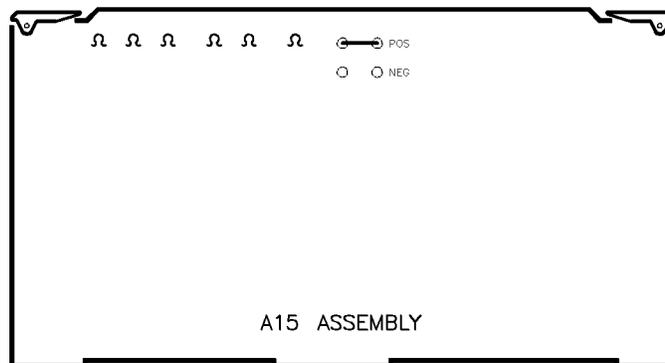

Figure 3-40. External Trigger Edge Selection Location
This procedure sets the external trigger to trigger on either the leading or the trailing edge of a TTL signal. When the jumper (shown in Figure 3-40) is in the POS position a sweep is triggered on the leading edge of the pulse (when the signal changes from 0 to 5 volts). When the jumper is in the NEG position a sweep is triggered on the trailing edge of the pulse (when the signal changes from 5 to 0 volts).
1. Turn the synthesizer power off and lift up the A15 assembly far enough to access the jumper shown in Figure 3-40. In some instruments the jumper positions will be rotated to the left 90°. In these instruments the jumper vertically connects the two left points in the POS position and the two right points in the NEG position. (POS and NEG positions are labeled on all assemblies.)